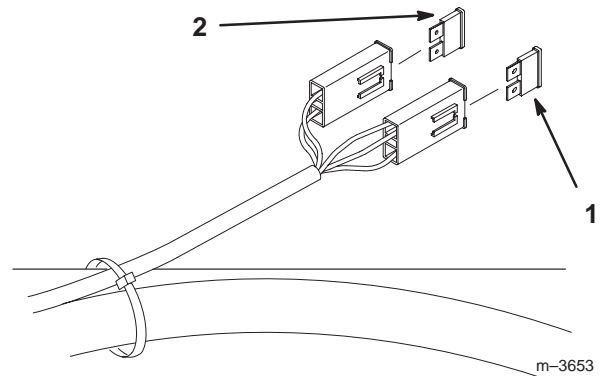

Figure 56
1. Raise the seat to gain access to fuse holder (Fig. 56).
2. To replace the fuses, pull out on the fuse to remove it (Fig. 56).